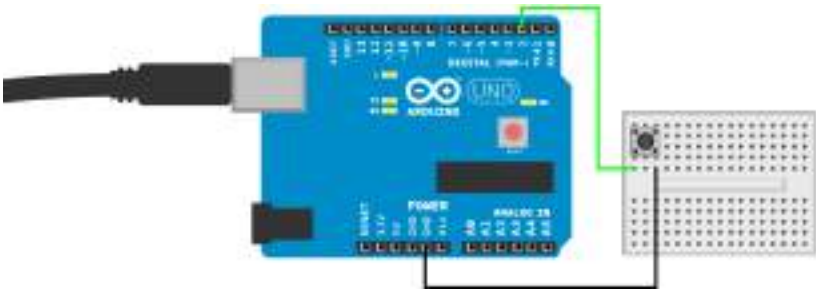

Figure 3-2. Momentary push button connected to an Arduino Uno
1. Orient your breadboard so that it is wider than it is tall, as shown in Figure 3-2.